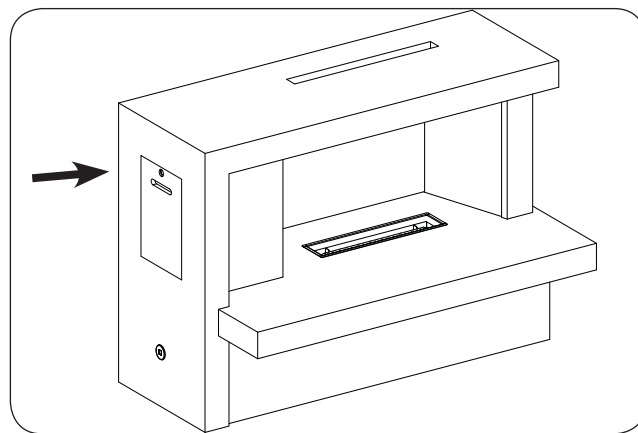

Fig. 18-1 Slide housing into position
1. Once gas connection is complete, carefully slide the housing piece into position (see Fig. 18-1).